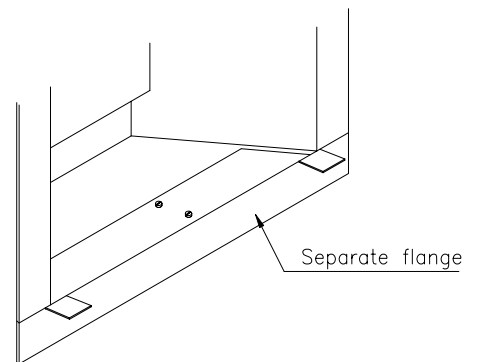

Fig.4 Securing bottom flange (Models S146H)
2. **For model S146H (4-sided version)** secure the separate bottom flange to the base of the convection box using the screws supplied (Fig. 4).